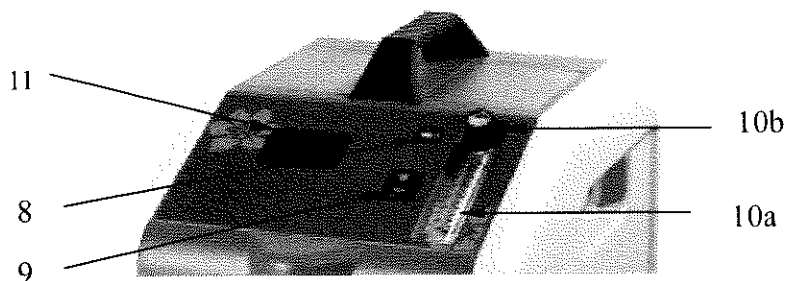

Figure 7
10. Oxygen flow meter (Figure 7)